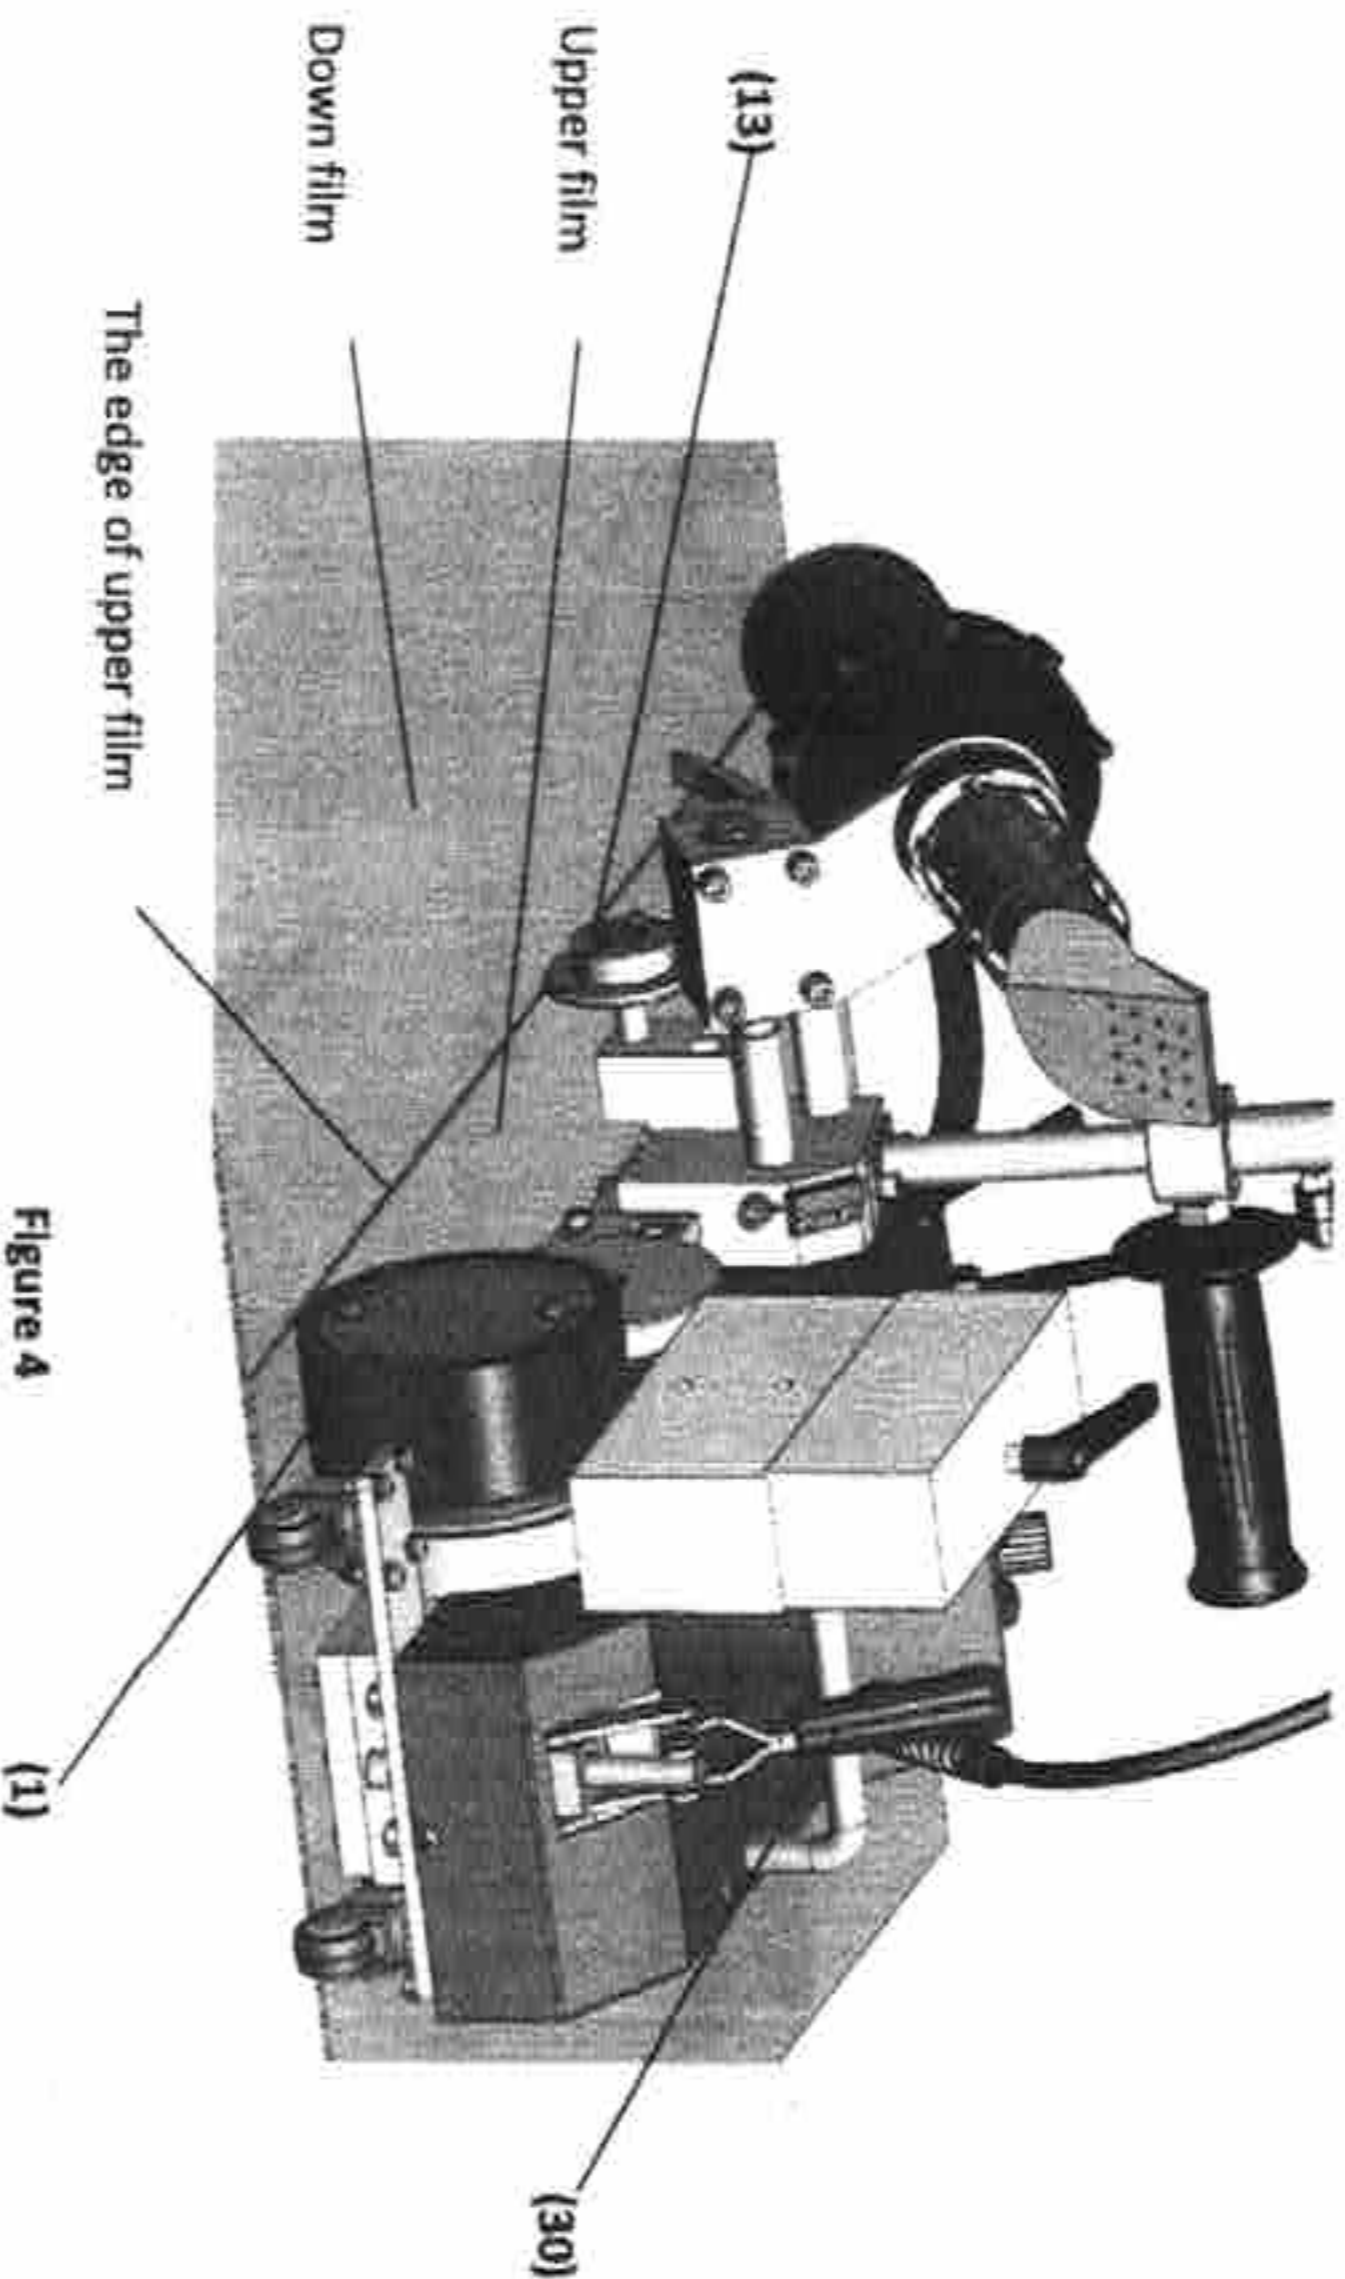

Figure 4
Pressure Lift lever (30) to lift machine, move it to welding position (the edge of upper membrane should keep in the same alignment with Drive silica roller (1) and the edge of Guide wheel (13), as shown in figure 4.